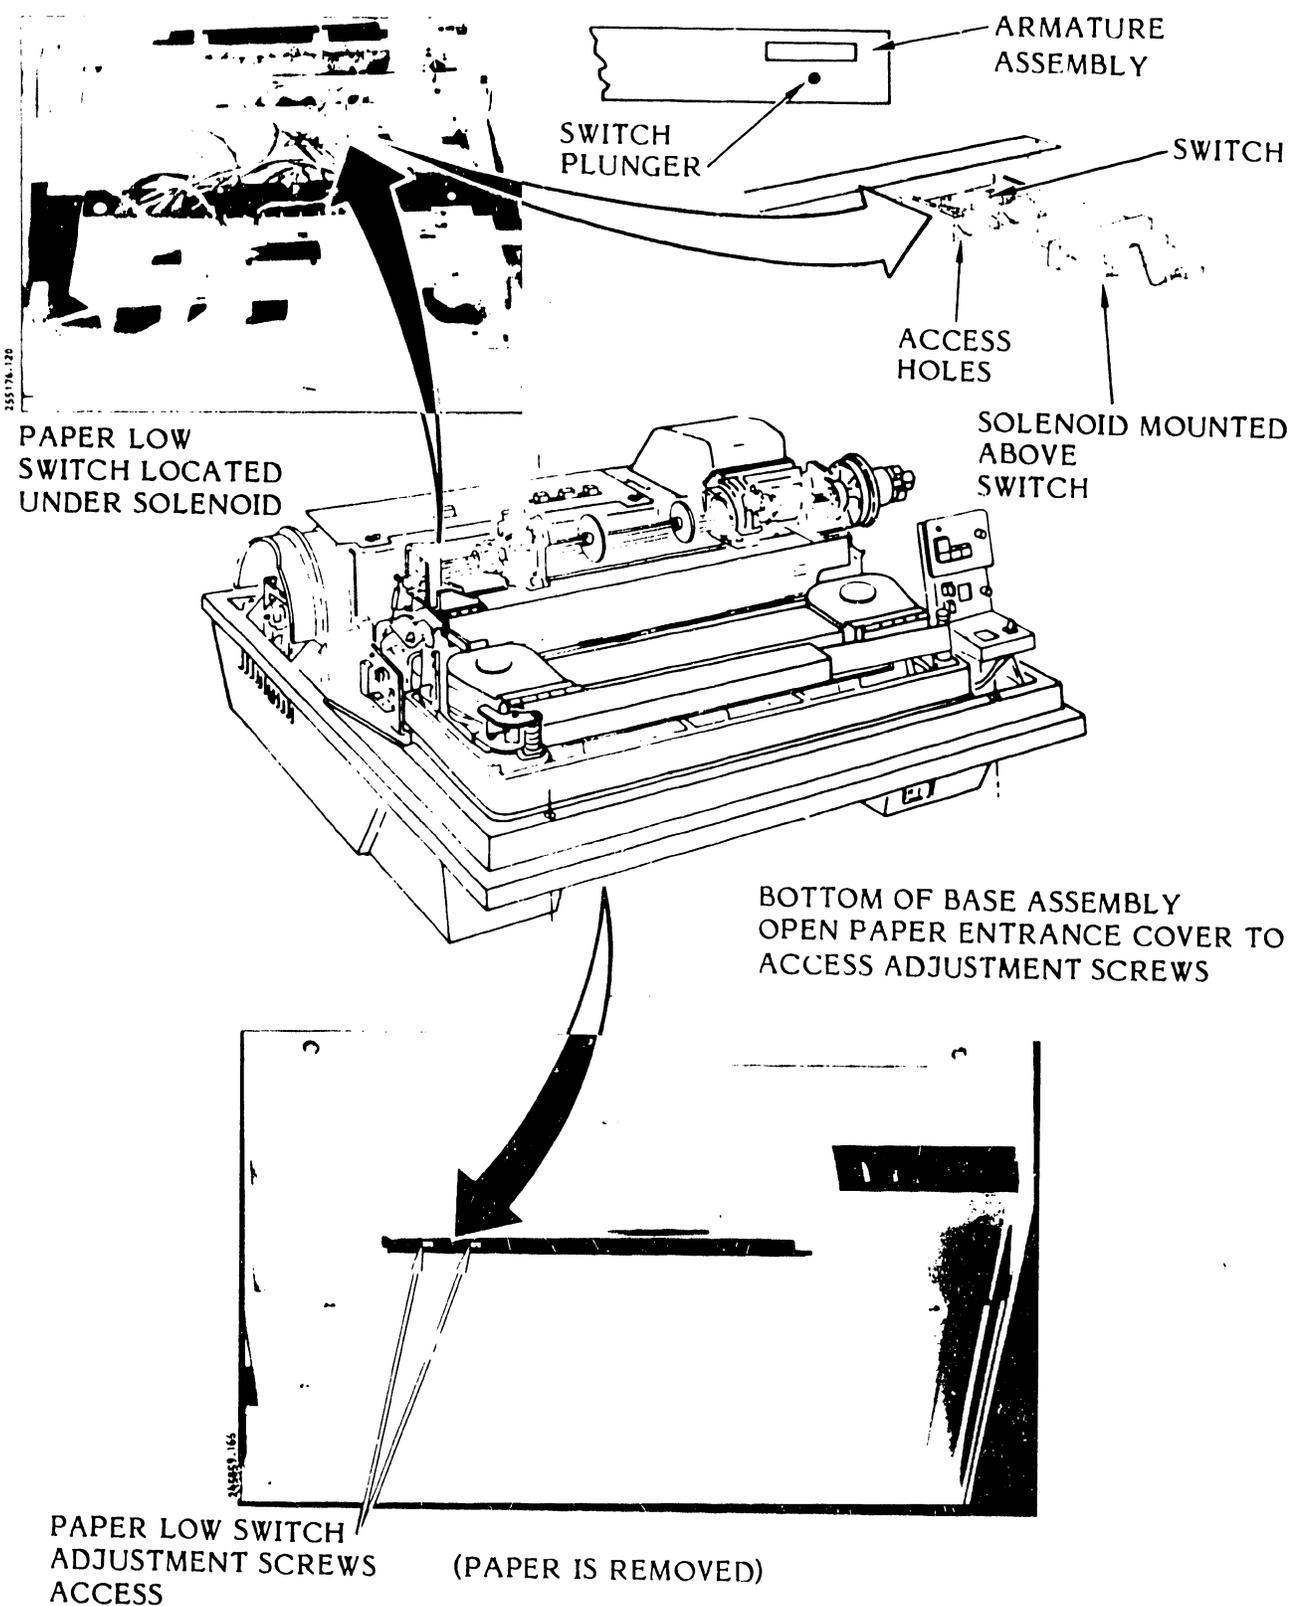

Figure 3-57. Paper Low Switch (300 LPM Printer) Switch Location and Adjustment Screw Access Location
1. See figure 3-57 for the location of the paper switch and its adjustment screw location on the solenoid plate, and the location of the switch plunger on the armature assembly plate.